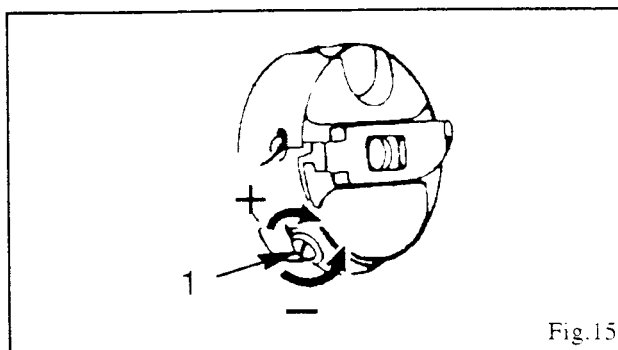

Fig.15
Regulate bobbin thread tension with tension regulating screw (1) as shown in Fig. 15.